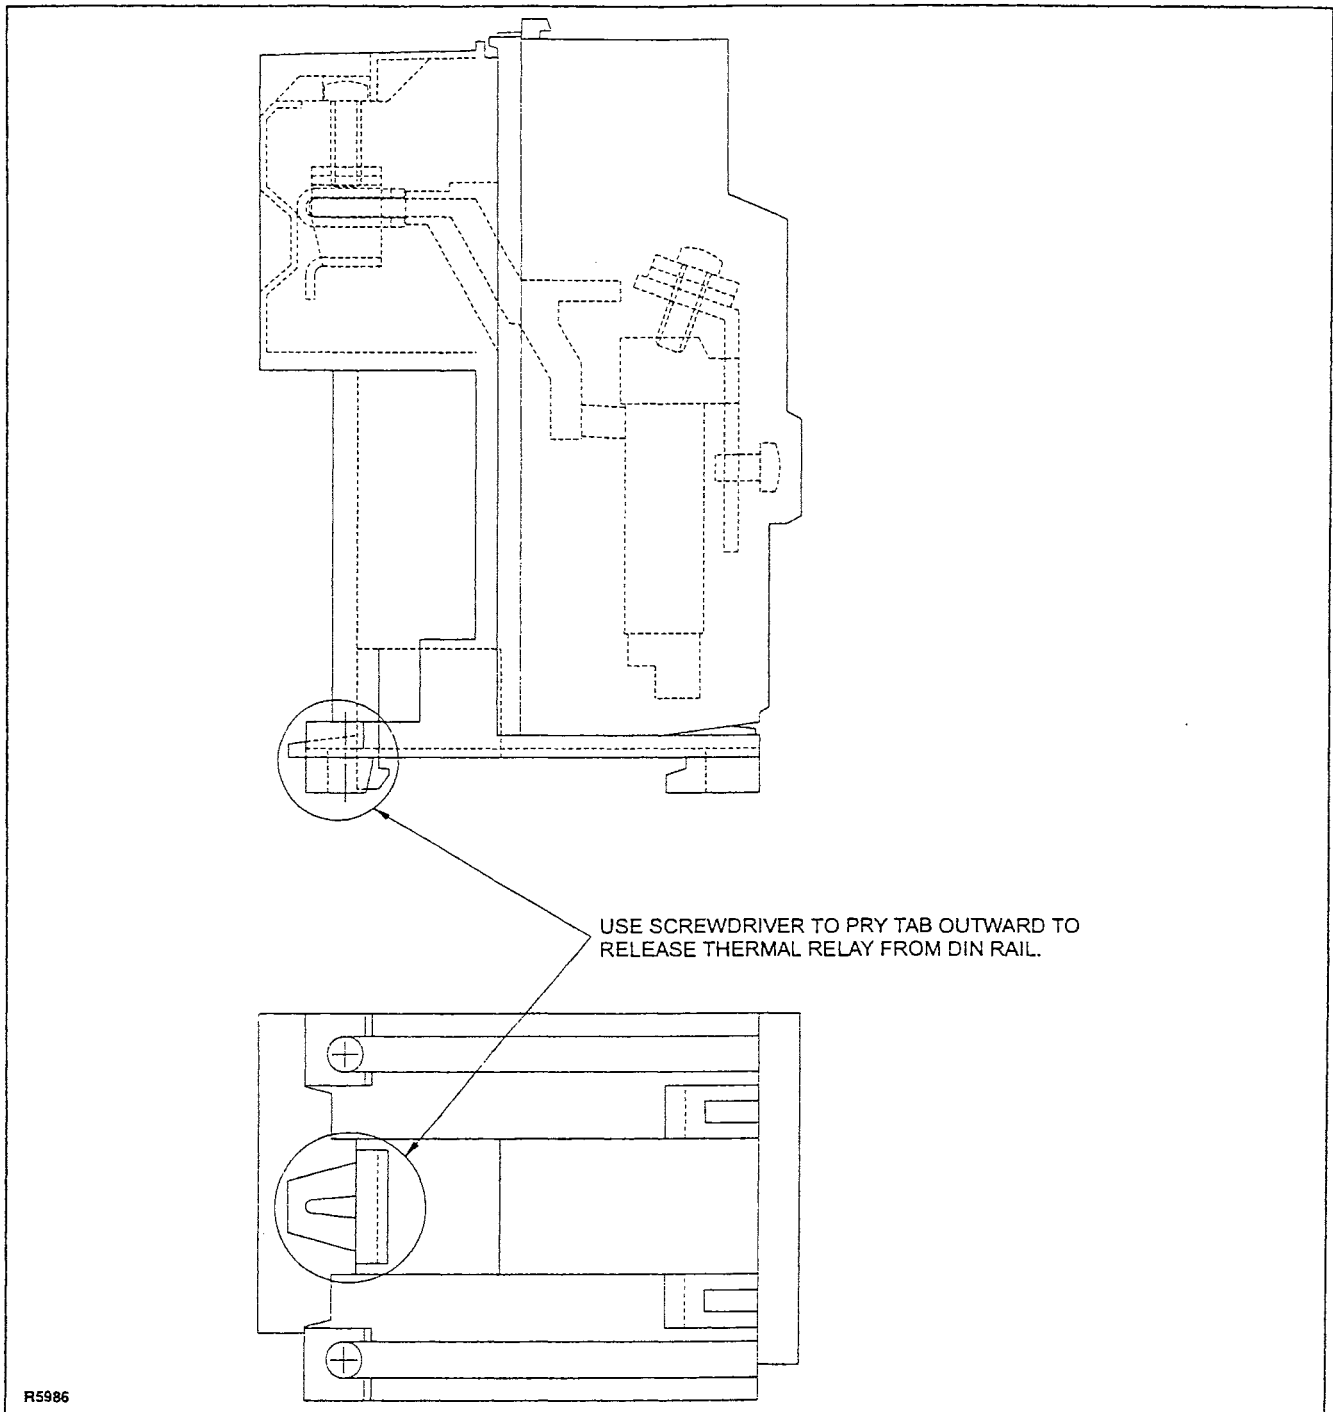

Figure 7-6. Overload Relay
1. Label and disconnect wiring/terminal rings for the overload relay (30), AC-contactor (31), and capacitor.
2. Using a screwdriver, pry the tab on the overload relay (30) and AC-contactor (31) and remove from the mounting rail (7). Refer to Figure 7-6 and 7-7.
3. Separate overload relay (30) and AC-contactor (31).
4. Remove the screws (5) and lock-washers (6) which fasten mounting rail (7). Remove the mounting rail.
1. Label and disconnect wiring/terminal rings for the overload relay (24), AC-contactor (21), and capacitor.
2. Using a screwdriver, pry the tab on the overload relay (24) and remove the relay from the mounting rail. Refer to Figure 7-6.
3. Remove the screws (33) and lock-washers (32) which fasten mounting rail (34). Remove the mounting rail.
4. Remove screws (29), lock washers (26) and washers (28). Remove AC-contactor (21).
1. Label and disconnect wiring/terminal rings for the overload relay (32), AC-contactor (33), transformer (5), and capacitor.
2. Using a screwdriver, pry the tab on the overload relay (32) and AC-contactor (33) and remove from the mounting rail (13). Refer to Figure 7-6 and 7-7.
3. Separate overload relay (32) and AC-contactor (33).
4. Remove the screws (12) and lock-washers (11) which fasten mounting rail (13). Remove the mounting rail.
5. Remove screws (6), lock washers (8) and washers (7) and remove transformer (5).
1. Label and disconnect wiring/terminal rings for the overload relay (25), AC-contactor (22), transformer (4) and capacitor.
2. Using a screwdriver, pry the tab on the overload relay (25) and remove the relay from the mounting rail. Refer to Figure 7-6.
3. Remove the screws (34) and lock-washers (33) which fasten mounting rail (35). Remove the mounting rail.
4. Remove screws (30), lock washers (27) and washers (29). Remove AC-contactor (22).
5. Remove screws (26), lock washers (27) and washers (29). Remove transformer (4).
1. Label and disconnect wiring/terminal rings for the overload relay (31), AC-contactor (32), and transformer (5).
2. Using a screwdriver, pry the tab on the overload relay (31) and AC-contactor (32) and remove from the mounting rail (13). Refer to Figure 7-6 and 7-7.
3. Separate overload relay (31) and AC-contactor (32).
5. Remove screws (8), lock washers (6) and washers (7). Remove transformer (5).
1. Label and disconnect wiring/terminal rings for the overload relay (25), AC-contactor (21), and transformer (4).
2. Using a screwdriver, pry the tab on the overload relay (25) and remove the relay from the mounting rail (34). Refer to Figure 7-6.
5. Remove screws (35), lock washers (26) and washers (28). Remove transformer (4).
1. Label and disconnect wiring/terminal rings for the overload relay (33), AC-contactor (32), and transformer (5).
2. Using a screwdriver, pry the tab on the overload relay (33) and AC-contactor (32) and remove from the mounting rail (13). Refer to Figure 7-6 and 7-7.
3. Separate overload relay (33) and AC-contactor (32).
1. Label and disconnect wiring/terminal rings for the overload relay (24), AC-contactor (20), and transformer (4).
2. Using a screwdriver, pry the tab on the overload relay (24) and remove the relay from the mounting rail (34). Refer to Figure 7-6.